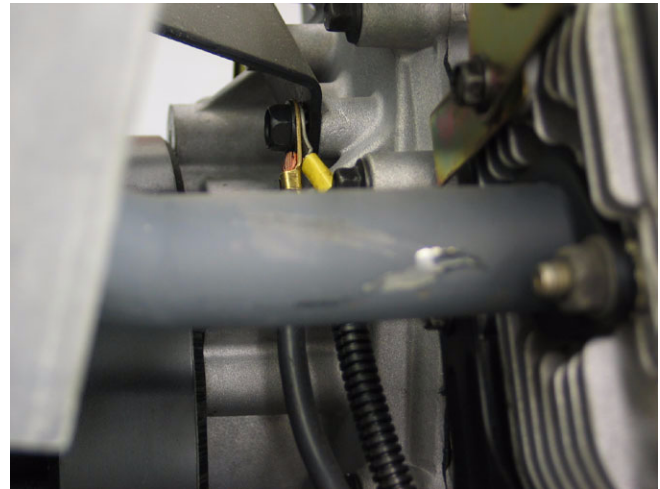

Figure 1.14
- 1.14. As with all electrical systems, do not neglect the basics: clean connections and good ground paths. See Figure 1.14.